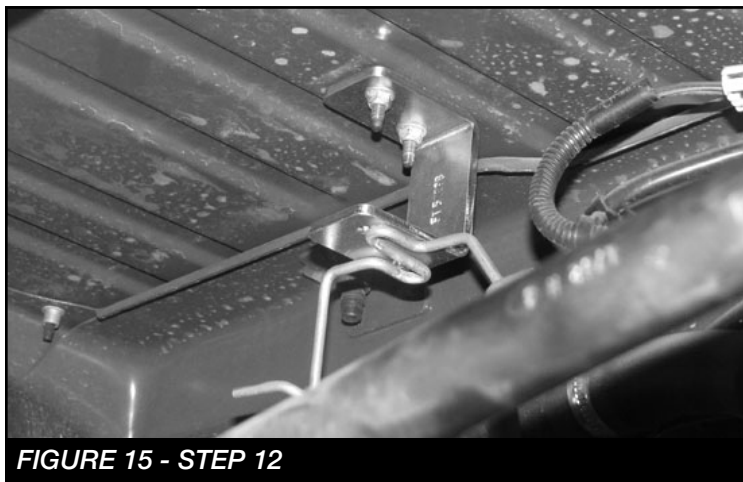
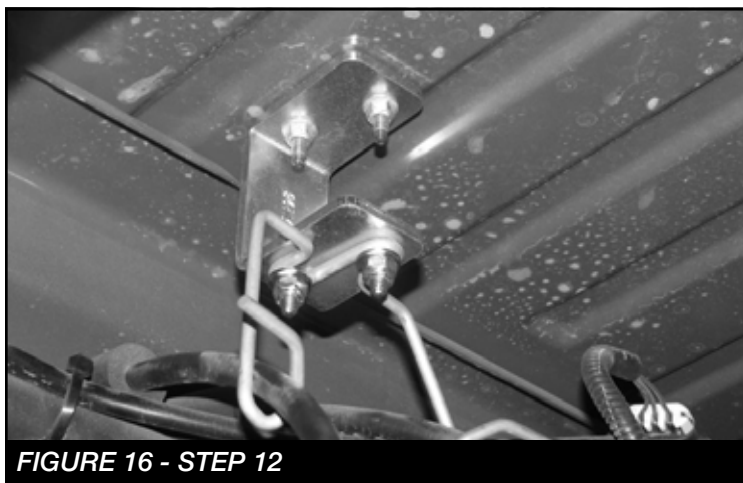

FIGURE 15 - STEP 12
FIGURE 16 - STEP 12
13. Locate FT50298 (E-Brake bracket) and (2) 1/4"-20 X 3/4" bolts and hardware. Disconnect the factory E-brake from the vehicle and install the FT50298 using the factory nuts. **SEE FIGURE 15.** Next, install the brake line hinge to the new bracket using the supplied 1/4" hardware. Torque to 14 ft-lbs. **SEE FIGURE 16**